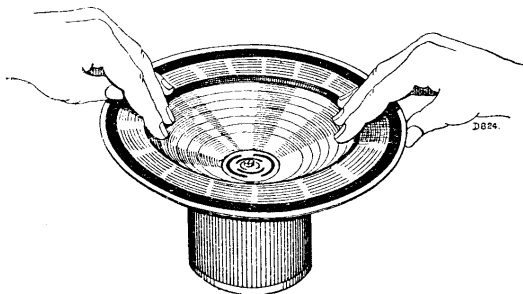

Fig. 6.
Loosen the centreing screw (item 106); place 4 distance pieces of 0.2 mm. thickness (Code No. 09.990.840) through the perforations of the spider (item 105) into the air-gap. Refix the centreing screw and withdraw the distance pieces. No sound should now be heard when the cone is carefully moved up and down (fig. 6).
The coil has become jammed in the air-gap (test as shown in fig. 6) or there is a partial short in the windings of the speech coil or transformer.